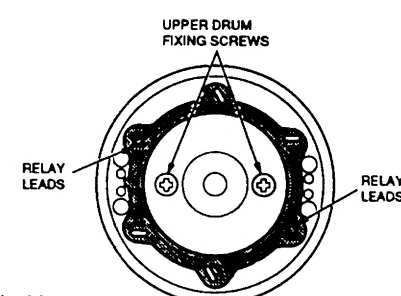

Fig 23.
- 1: Unsolder the four relay leads and remove the two upper drum fixing screws as in Fig 23.